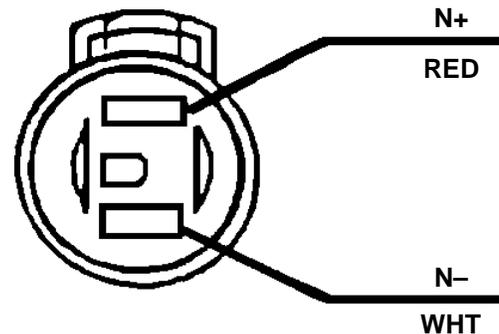

Figure 5.
- a. With ignition switch in OFF position disconnect sensor from amplifier and measure the resistance between the sensors connector terminals (Figure 5). Resistance range 140 to 180 ohms.